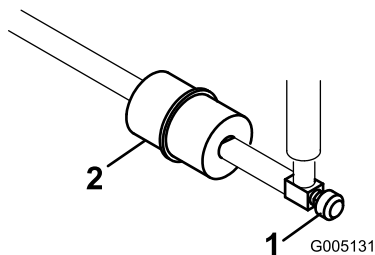

Figure 35
The in-line fuel filter is in the fuel line between the fuel tank and carburetor (Figure 35).
1. Close the fuel-shutoff valve (Figure 35).
2. Place a drain pan under the filter, loosen the hose clamp on the carburetor side of filter, and remove the fuel line from the filter (Figure 35).
3. Loosen the other hose clamp and remove the filter (Figure 35).